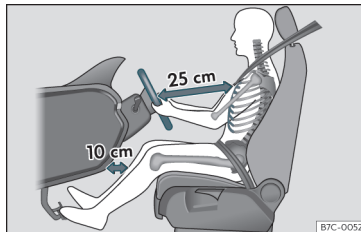

Fig. 2 The correct distance between the driver and the steering wheel must be at least 25 cm (10 inches).
- Move the steering wheel so it is at least 25 cm (10 inches) away from the sternum »» Fig. 2 and you can hold it with both hands on both sides, on the outer part, with your arms slightly bent.
bent and with a distance between the knees and the dashboard of at least 10 cm (4 inches)»» Fig. 2.